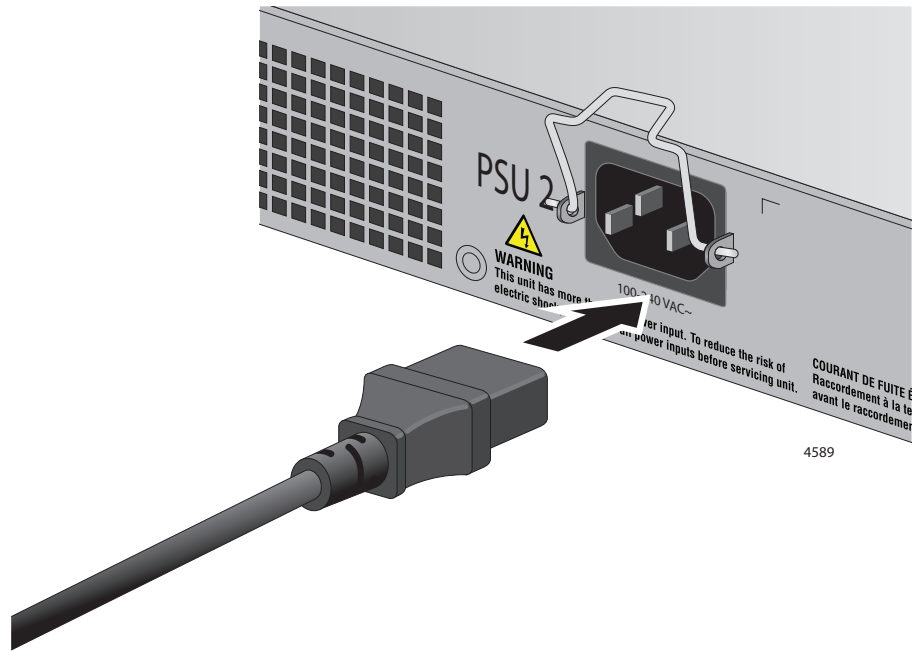

Figure 68. Connecting the AC Power Cords
2. Connect the AC power cord to the AC power connector on the rear panel. Refer to Figure 68 on page 109.